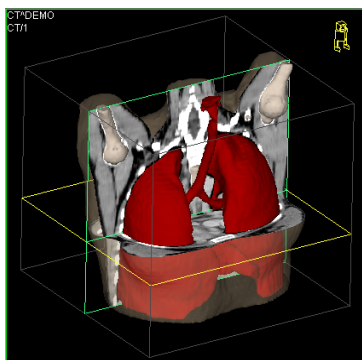

Figure 311 – 3D view
- To display ROIs in 3D view (see Figure 311), click the **3D** button.